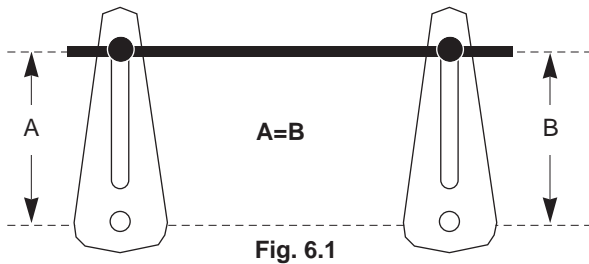

Fig. 6.1
1. The ball joints should be placed as close to the end of the crank arm as possible. This will minimize the forces acting on the linkage parts and reduce any hysteresis in the linkage assembly. See figure 6.1.